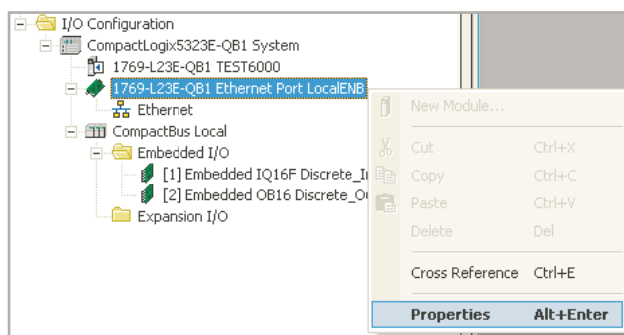

Figure 4.3.21h Ethernet port location
4. When the download is complete, right click on the relevant Ethernet port in the left pane 'tree', and select 'Properties' (figure 4.3.21h).